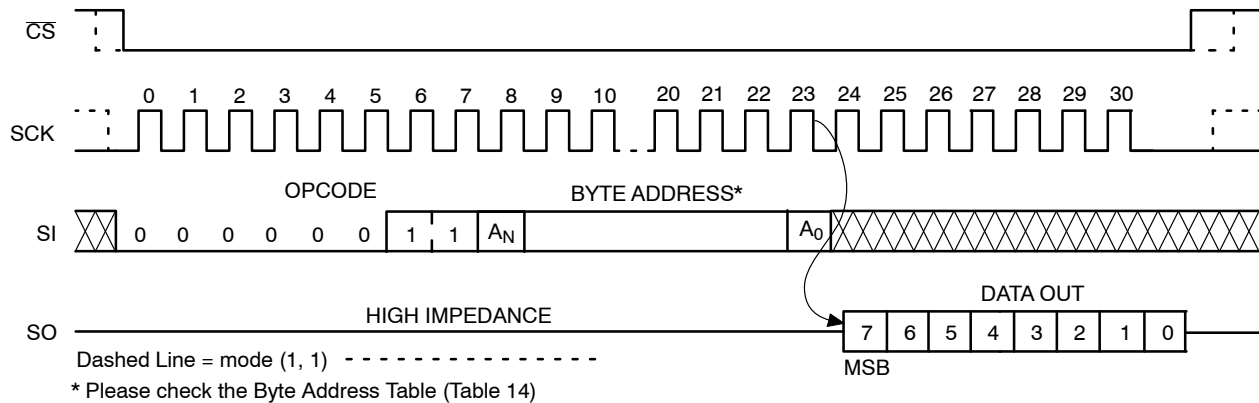

Figure 9. READ Timing
After receiving the last address bit, the CAT25256 will respond by shifting out data on the SO pin (as shown in Figure 9). Sequentially stored data can be read out by simply continuing to run the clock. The internal address pointer is automatically incremented to the next higher address as data is shifted out. After reaching the highest memory address, the address counter “rolls over” to the lowest memory address, and the read cycle can be continued indefinitely. The read operation is terminated by taking  $\overline{CS}$  high.
Reading the additional 64-byte Identification Page (IP) is achieved using the same Read command sequence as used for Read from main memory array (Figure 9). **The IPL bit from the Status Register must be set (IPL = 1) before attempting to read from the IP.** The [A5:A0] are the address significant bits that point to the data byte shifted out on the SO pin. If the  $\overline{CS}$  continues to be held low, the internal